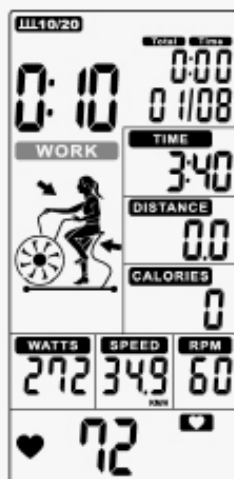

Figure 25
3. Cycle time counts down from 20 to 0 and WORK flashes once per second along with 20 beeps. Meantime windows displays rotation animation and count down from 4 minutes. Then TOTAL TIME, DISTANCE, CALORIES, WATTS, SPEED & RPM start calculating, counting displays '01/08' (Figure 25).